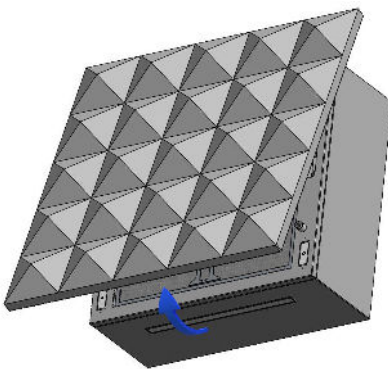
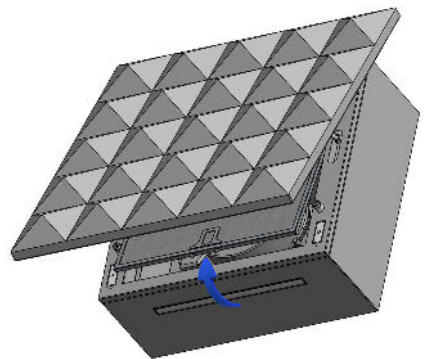
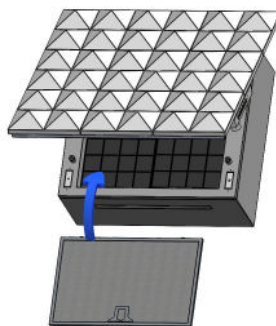

Fig.5
Fig.6
Fig.13
Open the front panel by lifting the lower section upwards (Fig.5) and remove the grease filter but pushing the lever down (Fig.6).
- › An activated charcoal filter is required when recirculating. This is to be installed behind the grease filter and slots into place (Fig.13). Charcoal Filter CAP47CF can be purchased directly from www.caple.co.uk or by calling our sales office on 0117 938 1900. This should be replaced according to the effective use of the hood at least once every 6 months.
- › Particular care must be made when handling the grease filter panel. It can be removed by pushing its handle toward the back-side of the cooker hood and turning the filter downwards so to unfasten it from its slot (Fig.6). To insert the filter just perform the opposite operation.
- › When the appliance is used in recirculating mode, the active charcoal filter (Fig.13) needs to be periodically replaced. The charcoal filter can be removed by removing the grease filter first (Fig.6), and by pulling its special plastic tongue until it is unfastened from its slot. Reinsert the charcoal filter by performing the opposite operation.